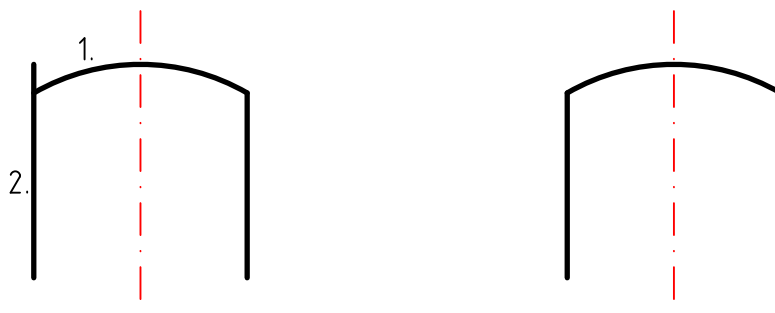

Figure 58: With the trim tool, the line at the left can be easily shortened to meet the arc.
Trims or extends a line or arc to meet another entity (Figure 58).
2. Choose the entities that you want to trim to the limiting entity. Often there are two possibilities for the entity to be trimmed. In Figure 58 you might want the top part of the line to stay and the lower part to disappear. In that case you would have to click the trim entity at the upper part. You always need to pick the part of the entity that you want to stay.